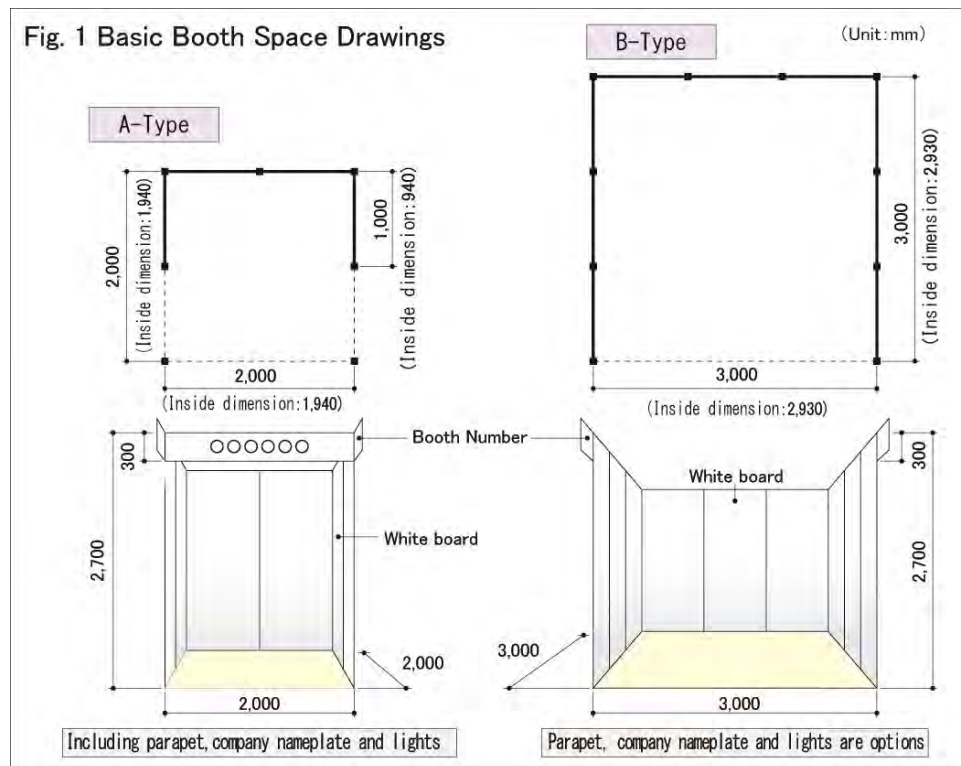

Figure 1. Basic Booth Specifications
(1) Basic Booth Unit Specifications
- There are 2 types of basic booths: A Type (W2,000mm X D2,000mm X H2,700mm) and B Type (W3,000mm X D3,000mm X H2,700mm). Refer to Figure 1 below.